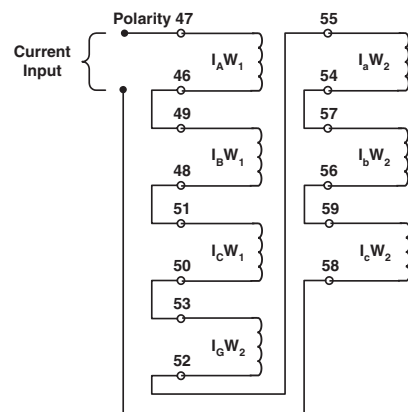

Figure 6-8 Current Calibration Configuration
4. Connect all current inputs in series ( $I_A W_1 = I_B W_1 = I_C W_1 = I_A W_2 = I_B W_2 = I_C W_2$ ) and apply 5.00 ( $\pm 0.01$ ) Amps  $\angle 0^\circ$ . See Figure 6-8. For 1 Amp CT models, use 1.0 ( $\pm 0.01$ ) Amps  $\angle 0^\circ$ .
2. Refer to Figure 6-8 and place unit in calibrate mode by configuring the proper dip switches.